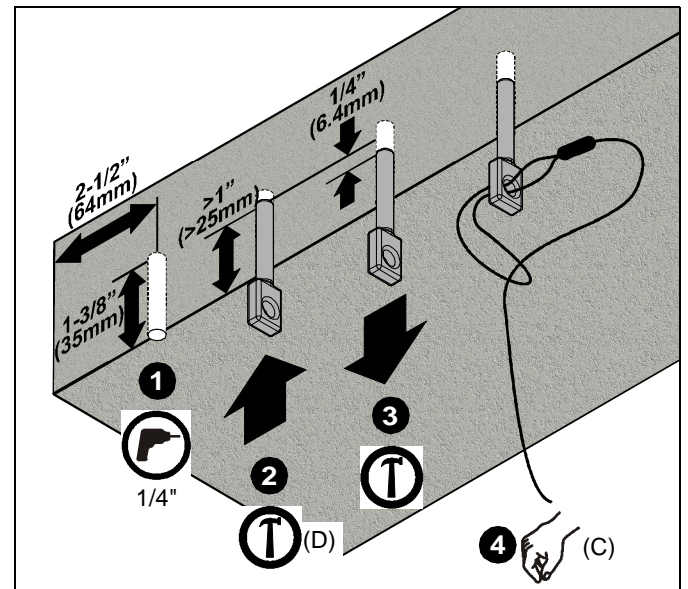

Figure 6
1. Drill 1/4" diameter x 1-3/8" deep hole at each marked cable anchor support location (See Figure 6). Ensure hole is at least 2-1/2" from nearest concrete edge. Remove debris from hole.
2. Tap anchor (D) into each hole to a depth of at least 1". (See Figure 6).
- Using claw portion of hammer, set each anchor (D) by pulling it out of hole approximately 1/4". (See Figure 6)
- Insert portion of manufactured loop on cable (C) through hole in anchor (D) (See Figure 6). Insert end of cable (C) through loop. Repeat for remaining support locations.